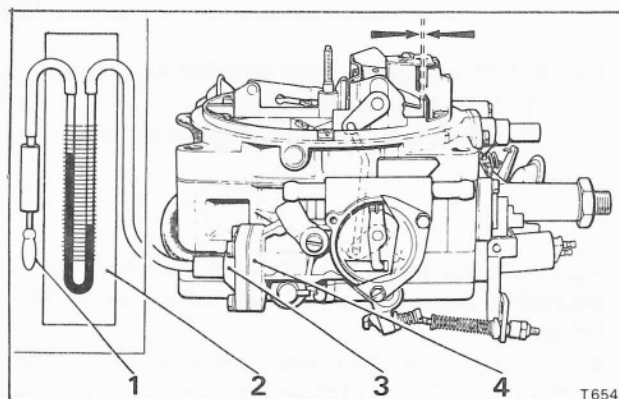

Fig. K73 Automatic choke pulldown setting
3. Turn the adjustment screw to set the gap between the leading edge of the choke strangler and the carburettor cover (see Fig. K73). Bias the strangler lightly in the opening direction as the measurement is made. Turning the adjustment clockwise decreases the gap. The correct setting is given in Figure K66.